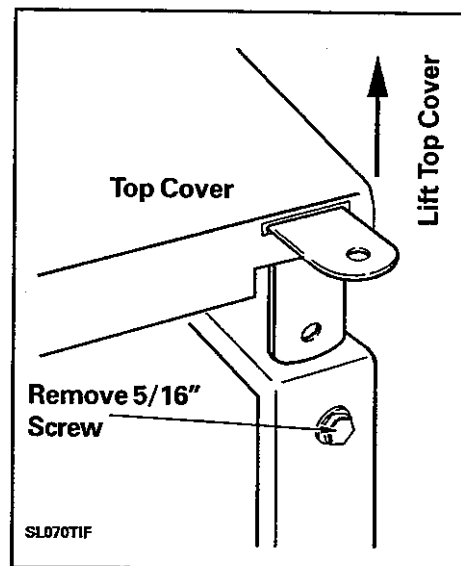

Figure 9-6
- Remove two 5/16" hex head screws in upper front cabinet flange (*Figure 9-6*).
4. Remove the lower 5/16" hex head screw in the upper right hand top cover cabinet bracket (**Figure 9-6**).
5. Raise the front right corner of the top cover with bracket attached till the bracket clears the front cabinet flange (**Figure 9-6**).